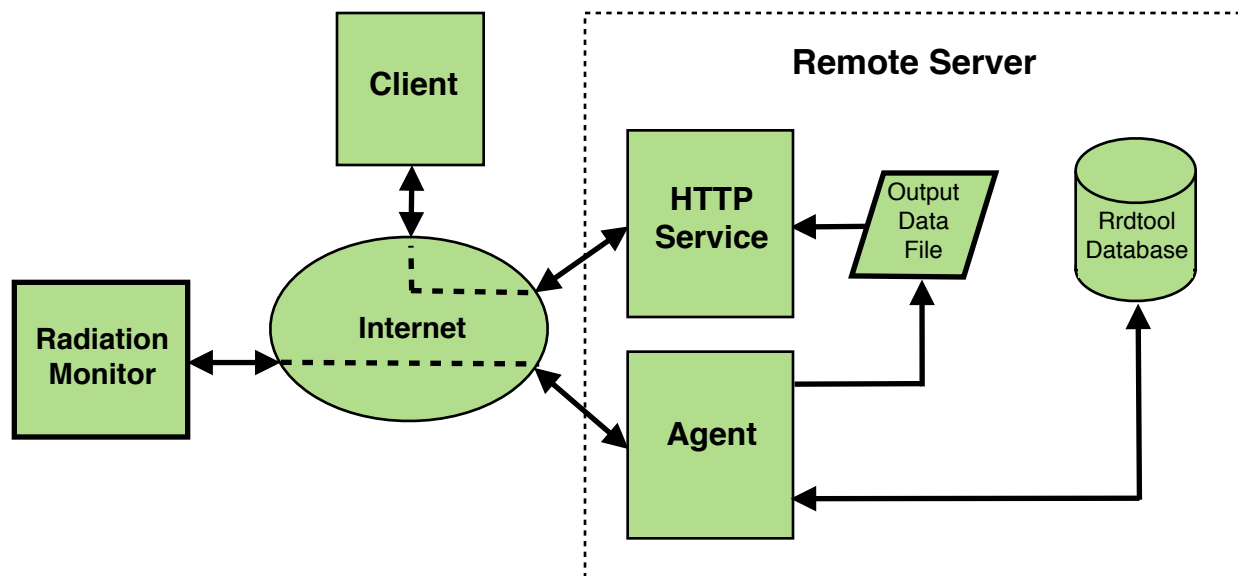

Figure 4. Block diagram of remote server software components showing data i/o, agent process, HTTP service, and database elements.
Referring to figure 4, the remote server components consist essentially of two pieces: an HTTP server component and an agent component. The HTTP server component includes HTML documents, with embedded Java script, for displaying the radiation monitor data in a web browser. The agent, a Python script, manages data conversion and re-formatting, updating a database, and generating graphical charts. Events flow in the following manner. The agent periodically makes an HTTP request of the radiation monitor. The radiation monitor responds with a single string containing the data. Below is a typical example of a data string received from the radiation monitor.
The agent parses this string, writes the data to a rrdtool database, and writes the data to the “Output Data File” for use by HTML documents. When a client requests a radiation monitor HTML document, Java script embedded in the document reads the output data file and displays this data in an HTML document. Although not shown in figure 4, the agent, as mentioned earlier, generates graphic charts for display in HTML documents. The graphic charts are stored as image files which Java script in the HTML documents can display in the radiation monitor web page.
3. The output data file (see figure 4) gets overwritten every 10 seconds and should not be stored on disk. Rather it is dynamic content that should be stored in the temporary file system resident in ram. Similarly the graphic image files get overwritten frequently and should also be stored in the temporary file system. Assure that the server /tmp folder gets mounted to the temporary file system. This can be done by adding the following line to the /etc/fstab file